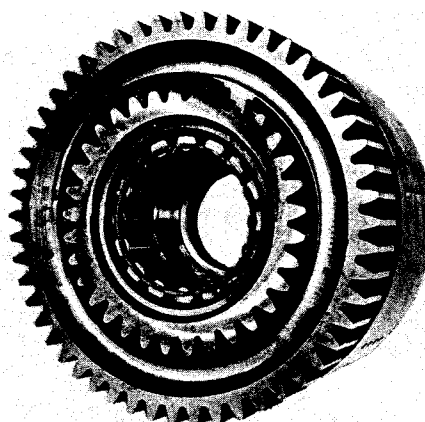

Figure 14
**NOTE:** If clutch drum hub gear, support bearings, or piston ring outer race, are to be replaced, use Figure 14 through 18; if replacement is not necessary disregard and continue on with Figure 19.